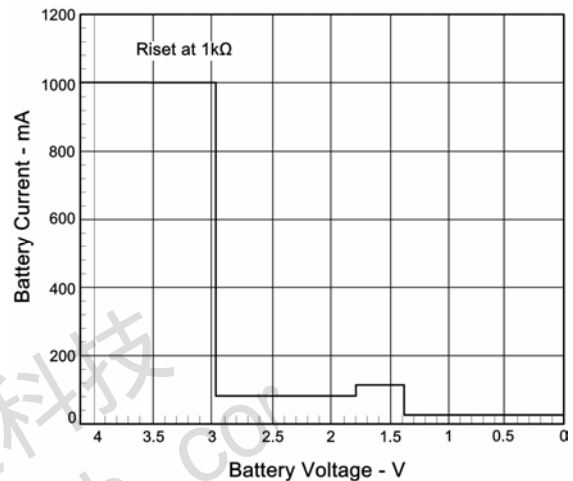

Figure 23. Short circuit Behavior
- (1) Pulse loading on the OUT pin may cause the IC to cycle between Done and charging states (LEDs Flashing)
- (2) When termination is disabled (TMR pin floating or $\overline{TE} = Hi$, EUP8060C) the Done state is not available; the status LEDs indicate fast charge if $V_{BAT} > V_{LOWV}$ and precharge if $V_{BAT} < V_{LOWV}$. The available output current is a function of the OUT pin voltage, See Figure 23.
The internal comparators monitor the battery voltage and detect when a short circuit is applied to the battery terminal. If the voltage at the BAT pin is less than the internal threshold $V(scind)$ (1.8V typical), the STAT pins indicate a fault condition (STAT1 = STAT2 = Hi-Z). When the voltage at the BAT pin falls below a second internal threshold $V(sc)$ (1.4V typical), the charger power stage is turned off. A recovery current, $I(short)$ (22 mA typical), is applied to the BAT pin, enabling detection of the short circuit removal. The battery output current versus battery voltage is shown in the graph, Figure 23.